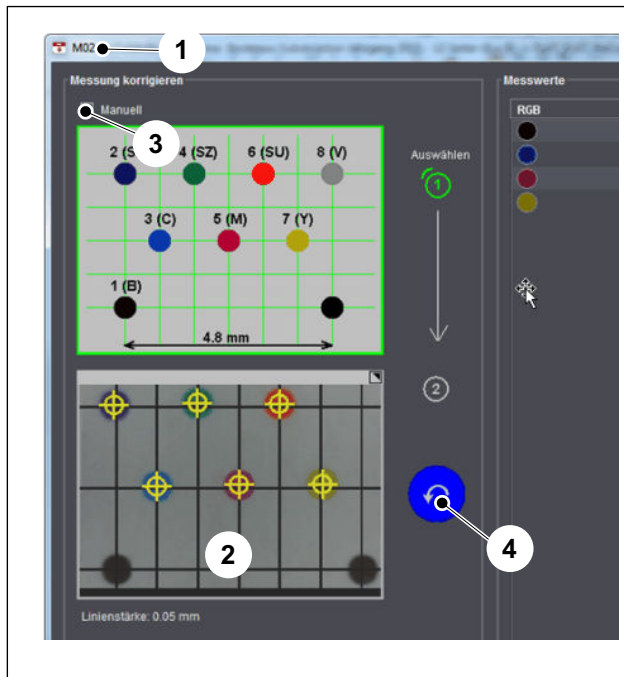

Fig. 19 Dialog box "Camera after image capture"
Once the mark to be measured is selected or displayed, the camera dialog (Fig. 19) is opened.
All detected color dots are marked with a yellow circle. The measurement is good if the centers of the yellow circles coincide with the centers of the color dots and the cross-hatch lines intersect in the centers of the reference dots (Fig. 19/1).
13. You can repeat the measurement with the blue *Back* button (Fig. 19/4).
14. If a color is not detected, choose the selection field *Manual*. Click on the undetected color dot in the pattern and pull the dot onto the corresponding color dot in the preview (Fig. 19/2).